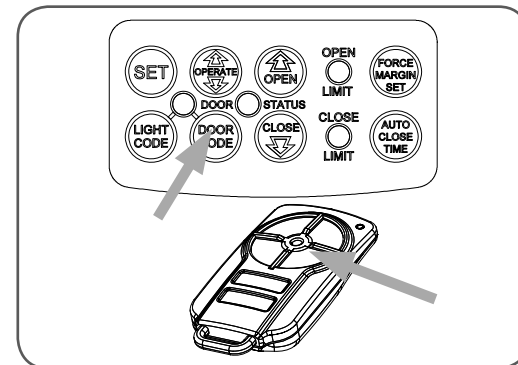

fig 22
- Briefly press the DOOR CODE button three times, then press it again and hold (will beep four times on fourth press (**Fig. 22**)).
- Press one of the four buttons on the transmitter for two (2) seconds, pause for two (2) seconds, then press the same button again for two (2) seconds.